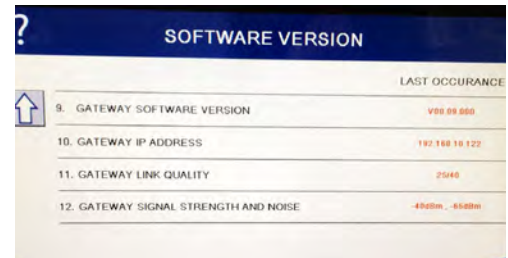

Figure 11
16. The gateway software version and other information is shown (see Figure 11).
- The gateway software version and other information is shown (see Figure 11).
- Latest gateway software version should be displayed, and other information is shown (see Figure 11).
- If the UI displays the software version, then CAN bus cable is connected and working. If the software version is all zeros (0), the Gateway is not connected or terminated. Otherwise, service person will have to check CAN bus wiring and ensure that wiring is OK and there is CAN bus termination.
- The first number on gateway link quality (refer to Figure 11 and item #11(Gateway Link Quality) which is shown at 25/40) is the difference between received signal strength and background noise level. This number is called SNR.
- Gateway signal strength and noise (refer to Figure 11 and item #12). Signal strength from -20 dbm to -65 dbm is good connection. Noise level should be below -70 dbm to -95dbm